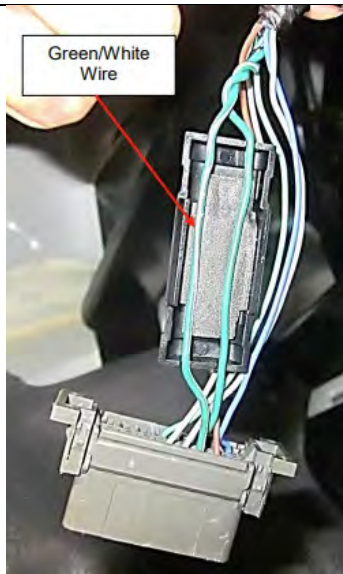

Figure 73
83. Transfer the CAN low (Solid color) wires and CAN high (Striped color) wires from the old CAN reader cap into the new CAN reader cap. (See Figures 73 and 74.)